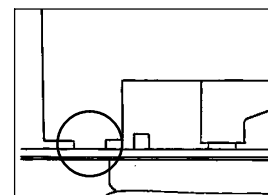

Figure 1
Cleave Tool 492674-1 shown in Figure 1 is designed to cleave fibers used with LightCrimp* Plus fiber optic connectors.
1. Push the lever of the cleave tool to open the clamp, and lay the fiber in the groove of the tongue with the applicable portion of the fiber started at the applicable scale marking (cleave length). Refer to the instructions included with the connector. See Figure 1, Detail A.
2. While firmly holding the fiber in place, release the lever so that the fiber is secure. For best results, it is *extremely* important that the cleave tool be held as shown in Figure 1, Detail B. Making sure that the tool tongue stays flat, *gently* depress the tool arm to scribe the fiber. The edge of the blade should only *touch* the fiber. Release the arm.